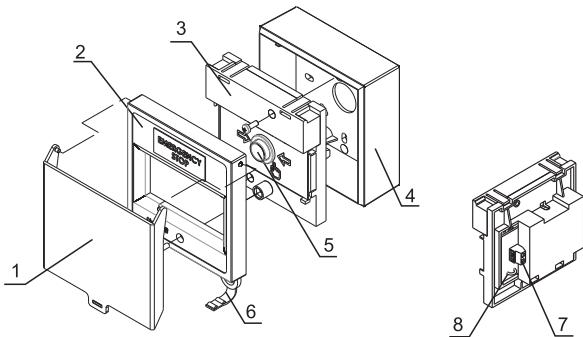

Fig.1/Fig.1a
FD3050B consists of : surface mounting box (pos.4, fig.1), a carrier unit (pos.3, fig.1), a button (pos.5, fig.1), a breakable seal (pos.6, fig.1), a cover (pos.2, fig.1) and a protective cover (pos.1, fig.1).
1. Dismantle the basic components of the unit : the cover, the carrier unit, and the back box shown on fig.1 by unscrewing the fixings.